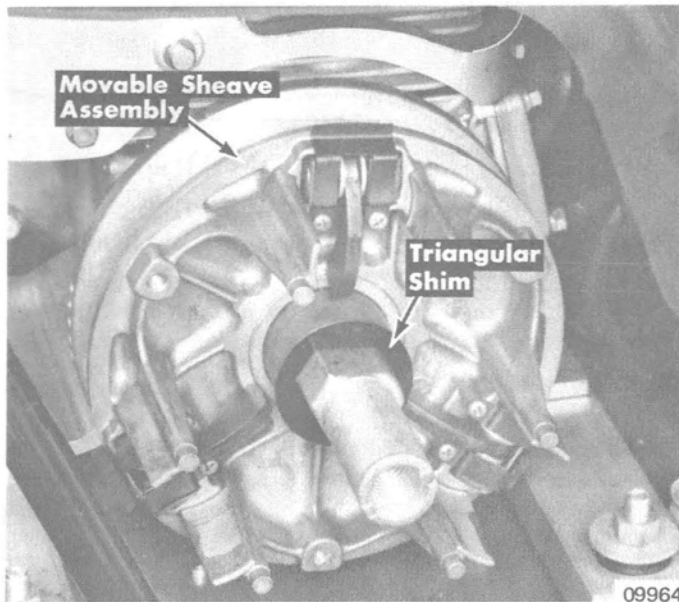

Figure 7. Reassembling Drive Clutch
5. Install movable sheave assembly and triangular shaped shim on fixed sheave spindle. (Figure 7)